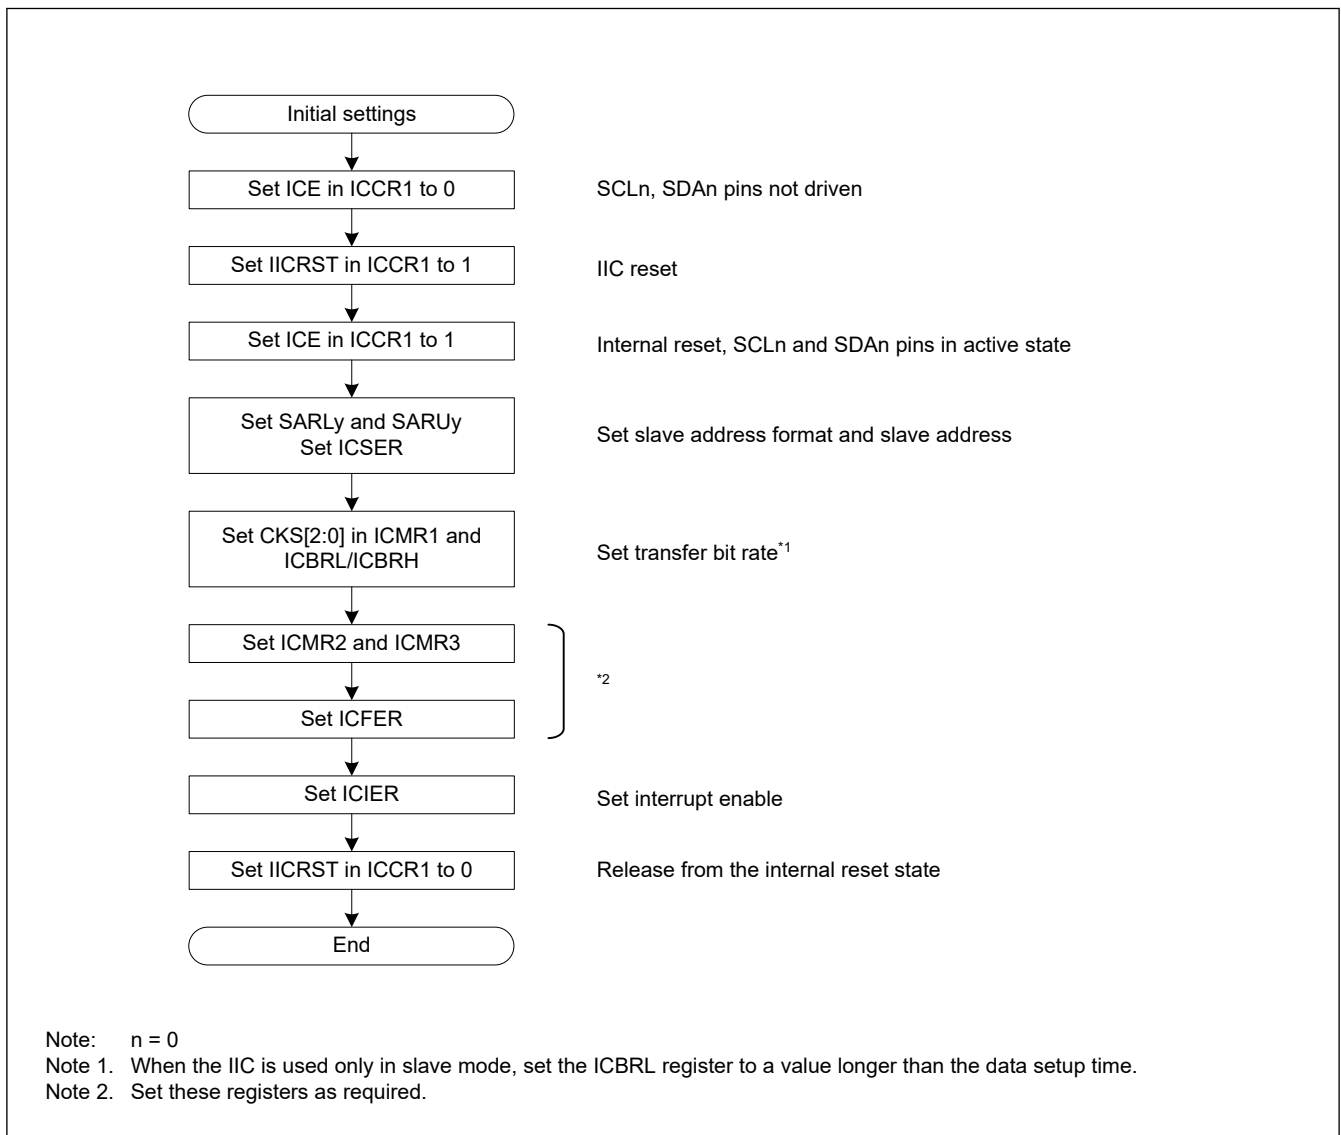

Figure 28.5 Example IIC initialization flow
Before starting data transmission or reception, initialize the IIC using the procedure shown in Figure 28.5.
4. Set the SARLy, SARUy, ICSEr, ICMR1, ICBRH, and ICBRL registers (y = 0 to 2), and set the other registers as required. For initial settings of the IIC, see Figure 28.5.